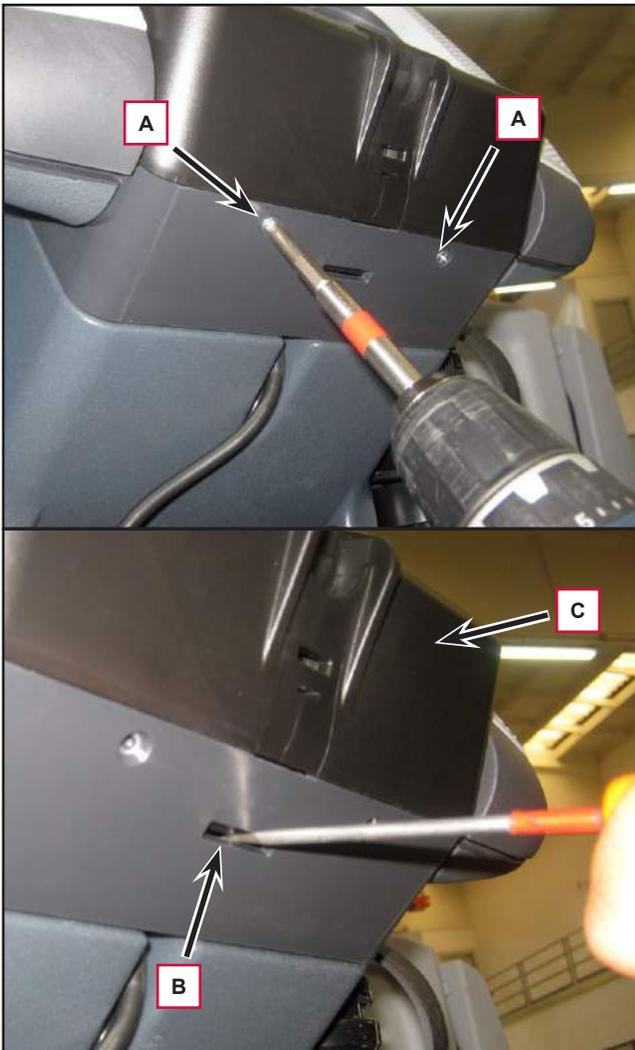
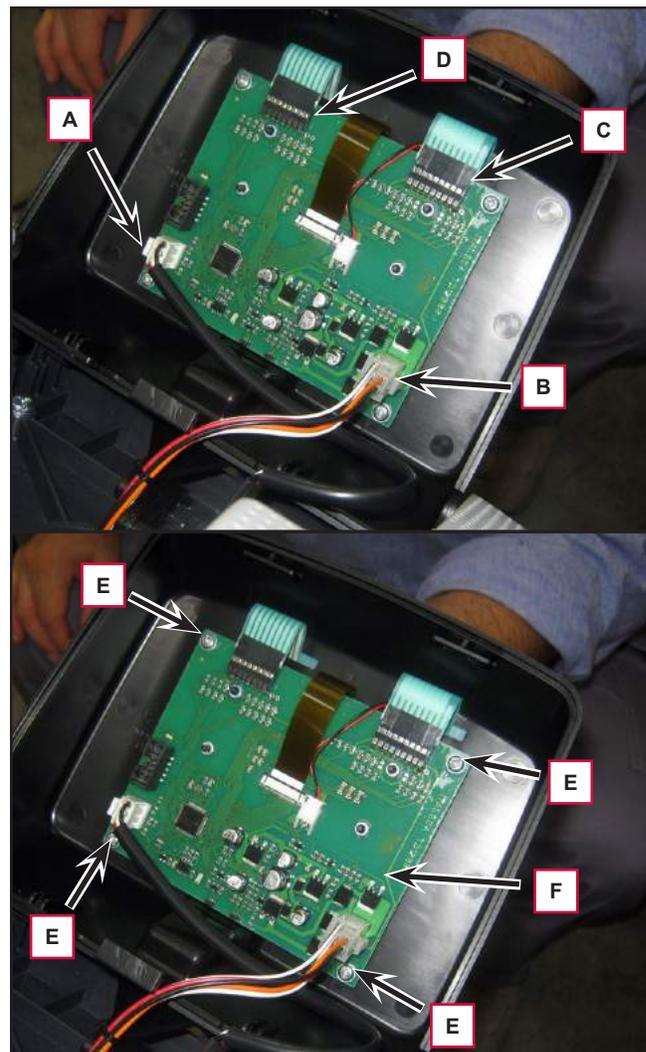

Figure 15
Figure 16
4. Unscrew the 2 screws (A) (Figure 15).
5. Release the retaining tab (B), then lift up and remove the dashboard cover (C).
6. Disconnect the following connections sequentially (Figure 16):
- (A) Speed potentiometer connection (J4).
- (B) Display board power supply connection (J1).
- (C) Flat connection (J3).
- (D) Flat connection (J4).
7. Unscrew the 4 screws (E), then remove the display board (F).